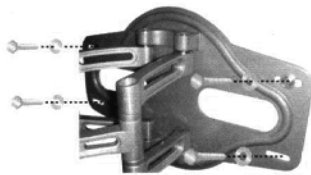

Fig. 1 - Attach the wall plate to the wall.
- Place the mount back against the wall and secure it using the Lag Bolts (Q) and Lag Bolt Washers (R) provided (see Fig. 1). Do not over-tighten these bolts and do not release the mount until all bolts are in place.